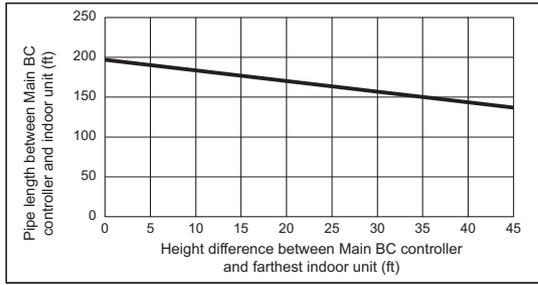

Fig. 2
*2. Details refer to Fig. 2.
*9. When the piping length or the vertical separation exceeds the limit specified in Fig. 2, connect a sub BC to the system.
When using indoor models M54 or larger, the restrictions shown in Fig. 2 cannot be exceeded.